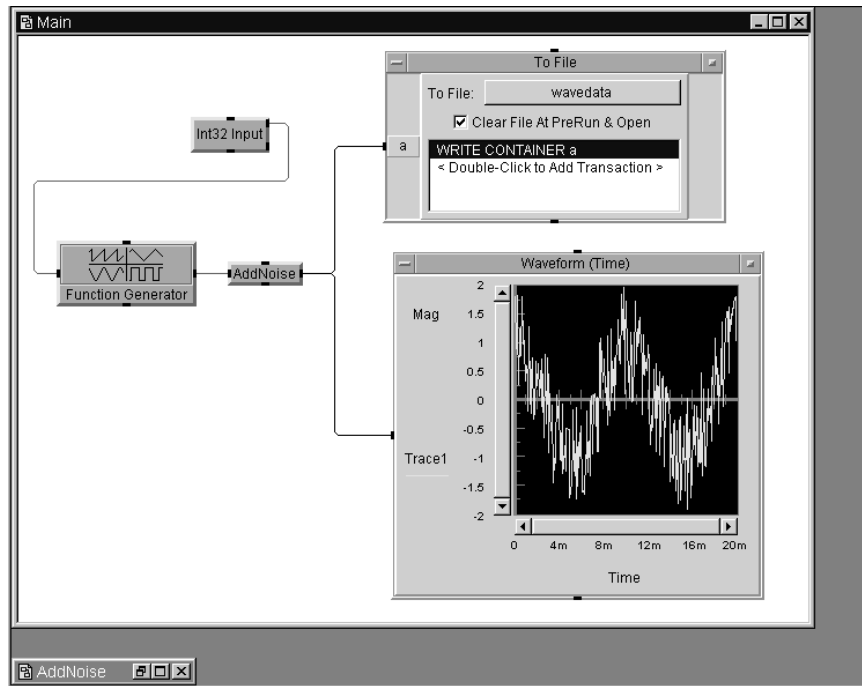

Figure 50 Adding a To File Object
- 4 Connect the data output pin of the AddNoise UserObject to the data input pin of To File. The program should now look like Figure 50.